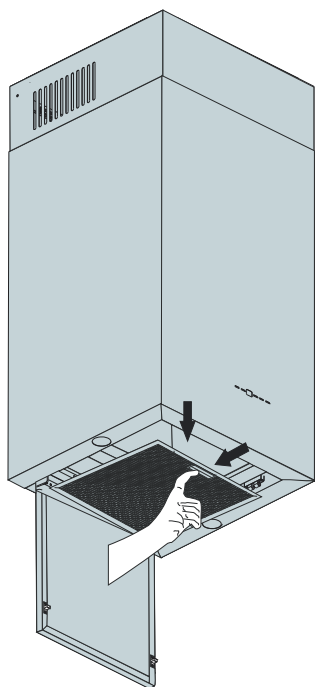

Fig. 12
1. ➔ To remove the side suction plate, hold from the top right and left points and pull down (Fig. 12).
Open the aluminium cartridge filter lock by pressing the tab and remove it from its socket (Fig. 12).